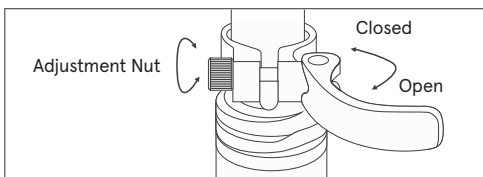

Fig. 9
3. Using the 17mm open end wrench, loosen the axle nuts on the front wheel. Lift the front of the bike and insert the front wheel into the fork dropouts (a helper can make this easier). Make sure the washers are also between the nut and the fork and not the fork and the hub. (Fig. 9)
1. Open the seat post quick release lever (**Fig.9**). Apply a small amount of grease to the seatpost. Insert the seat post into the seat tube to sufficient depth so that the minimum insertion line is no longer visible. **NOTE:** The lever should require some force to close. If it closes too easily and does not hold the seat post in place, or if the effort to close the clamp is too great, adjust the clamping force by loosening or tightening the adjusting nut on the side opposite the lever.